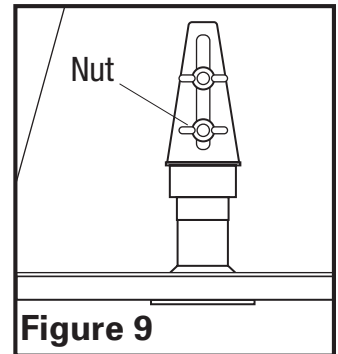

Figure 9
2. Locate the lamp holder bracket mounted on the back wall of the hood (**Figure 9**).